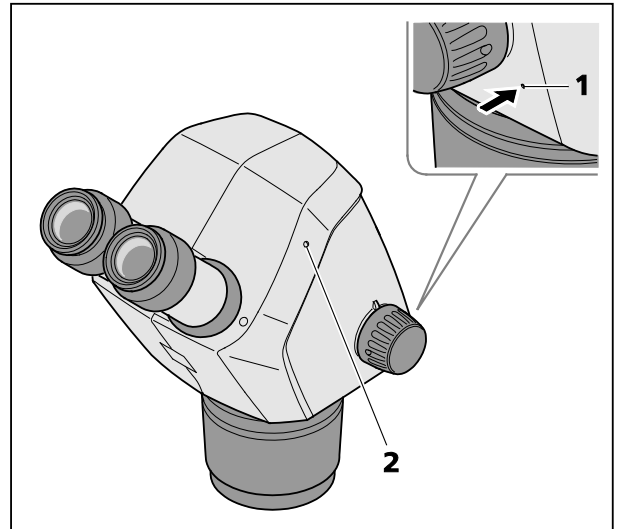

Fig. 10 Reset of the integrated camera
- Keep the Reset button (Fig. 10/1) pressed for min. 10 seconds using an unbent paper clip.
During the Reset procedure, the status LED of the camera first goes out, then flashes twice. Camera initialization being complete, the status LED (Fig. 10/2) is lit permanently.